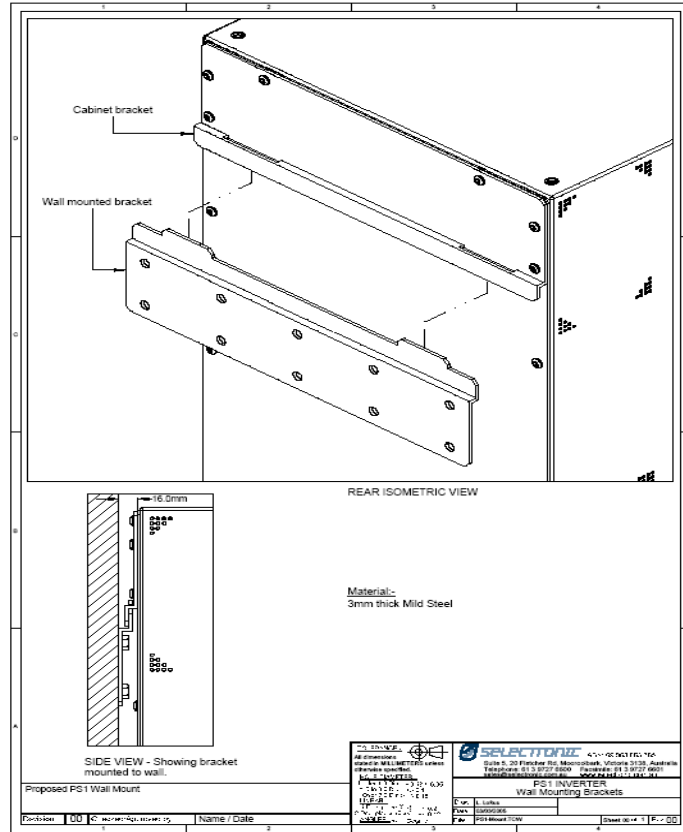

Figure 22 Wall Mounting Brackets
- Refer Figure 22 Wall Mounting Brackets.